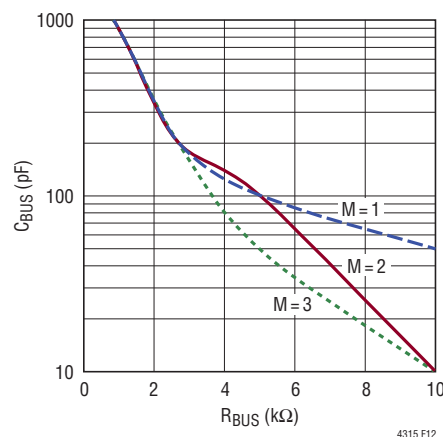

Figure 12. Recommended Maximum R1 and CB1 Values for the LTC4315 Operating with Multiple LTC4300As in a 3.3V System.
- For 3.3V systems, refer to Figures 12 and 13 for operation with LTC4300As and LTC4307s. In the figures: